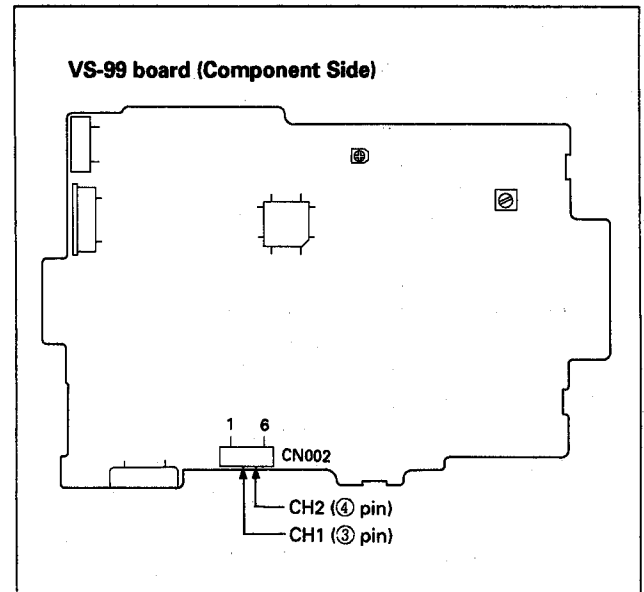

Fig. 9-1.
- 4) Check that the RF waveform of the oscilloscope is flat at both inlet and outlet side. (Refer to Fig. 9-1 and 9-2)